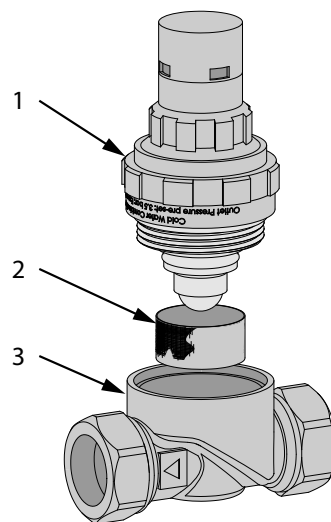

Figure 9: Pressure Reducing Valve assembly
- ▶ Remove the Pressure Reducing Valve head work to access the strainer mesh, clean and re-fit (see figure 9, page 17)